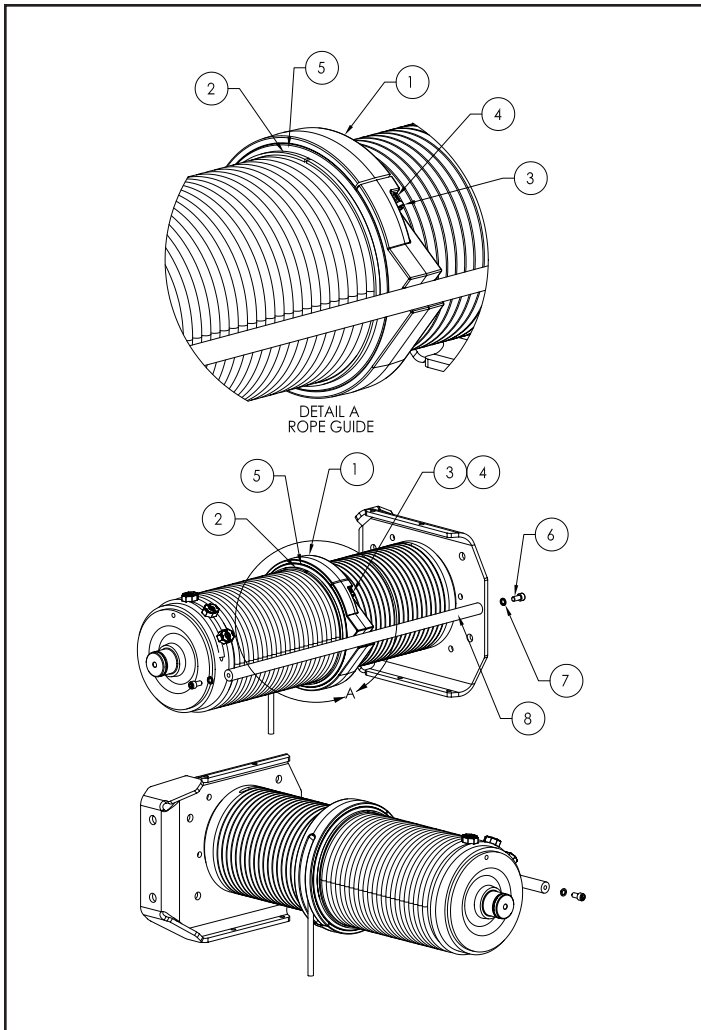

Figure 5-3a Rope Guide Assembly ("B" & "C" Frame)
b) **Disassembly for "B" & "C" Frames.** Refer to Fig. 5-3a. For further assistance in locating components, refer to the parts list in Section IX.
- (1) Remove socket head cap screws and lock washers (Items 6 and 7). Remove drum frame rod (Item 8).
- (2) Remove shoulder bolts (Item 3) and compression springs (Item 4). The two halves of the rope guide body (Item 1) can now be pulled off the drum separately. When reassembling be sure that the half with the rope slot is on the top half of the drum.